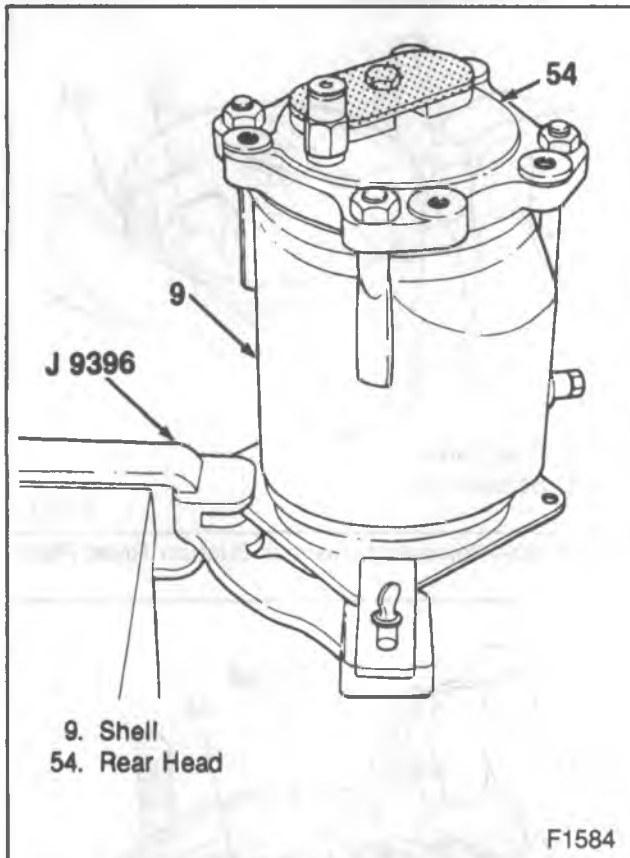
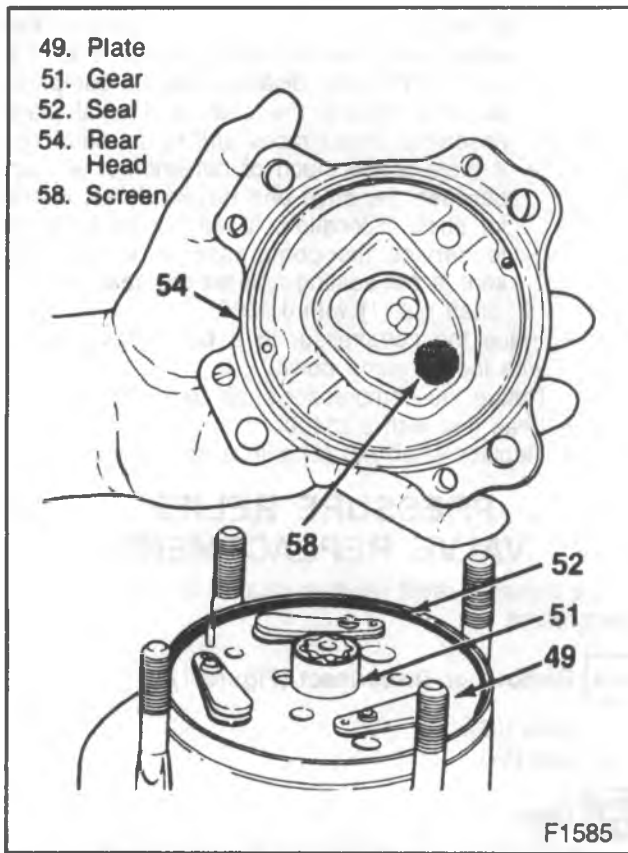

Figure 17—Compressor to J 9396
Figure 18—Removing the Rear Head
- Compressor to J 9396. Secure with thumb screws (figure 17).
- 1. Nuts (42) from the threaded studs.
- 2. Rear head (43) (figure 18).
- Tap around the edge to remove the rear head (43).
- 3. Suction screen (47).